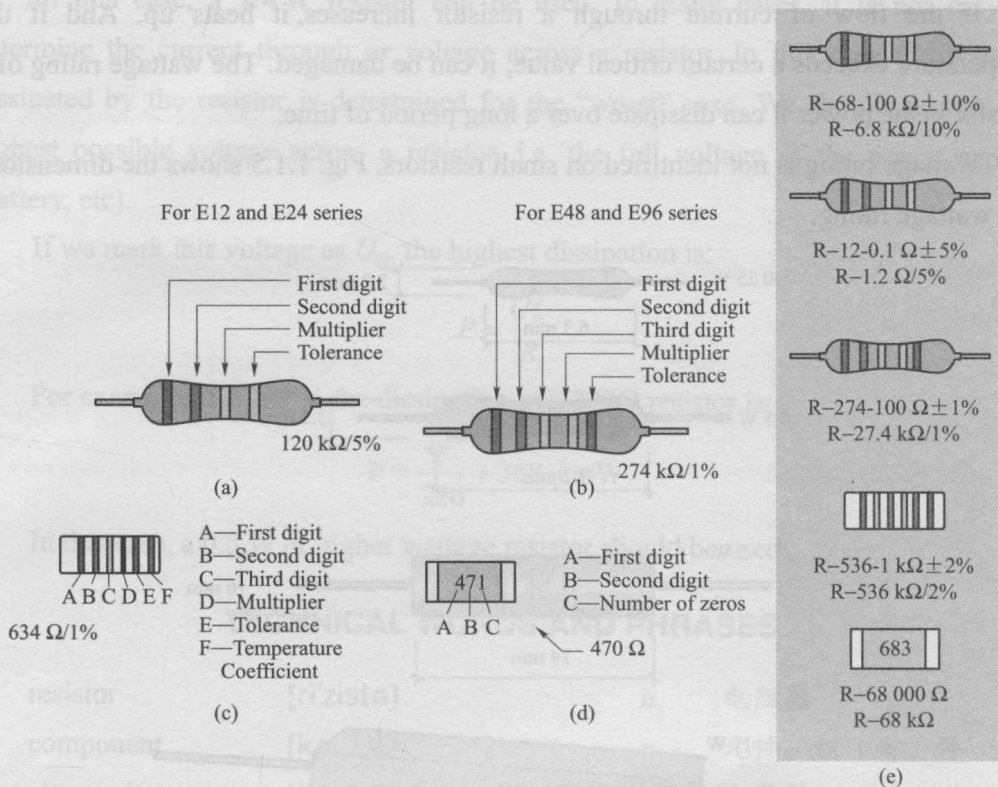

Fig. 1.1.4 Resistors
A common resistor has 4 bands. It is shown in Fig 1.1.4 (a). The first two bands indicate the first two digits of the resistance; the third band is the multiplier (the number of zeros that is to be added to the number derived from the first two bands); the fourth represents the tolerance.
Marking the resistance with five bands is used for resistors with tolerance values of 2%, 1% and other high-accuracy resistors. The first three bands determine the first three digits, and the fourth is the multiplier, and the fifth represents the tolerance (Fig. 1.1.4 (b)).
Some SMD resistors are made in the shape of small cylinder while the most common type is flat. Cylindrical SMD resistors are marked with six bands — The first five bands are “read” as with common five-band resistors, while the sixth band determines the Temperature Coefficient (TC), which gives us a value of resistance change upon 1-degree temperature change (Fig. 1.1.4 (c)).
The resistance of a flat SMD resistor is marked with digits printed on their upper side. The first two digits are resistance values, while the third digit represents the number of zeros (Fig. 1.1.4 (d)). For example, the printed number 683 stands for 68,000. That is 68 k.